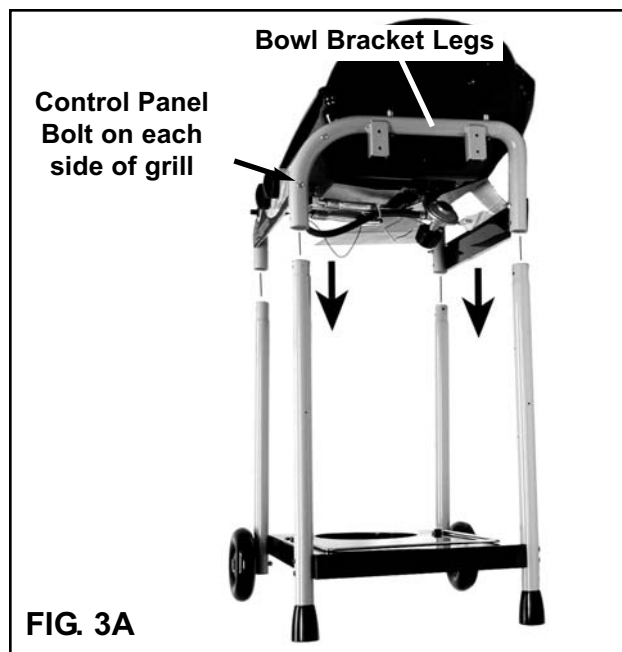

FIG. 3A
- With Cart upright, align Bowl Bracket legs with Cart legs. (FIG. 3A)